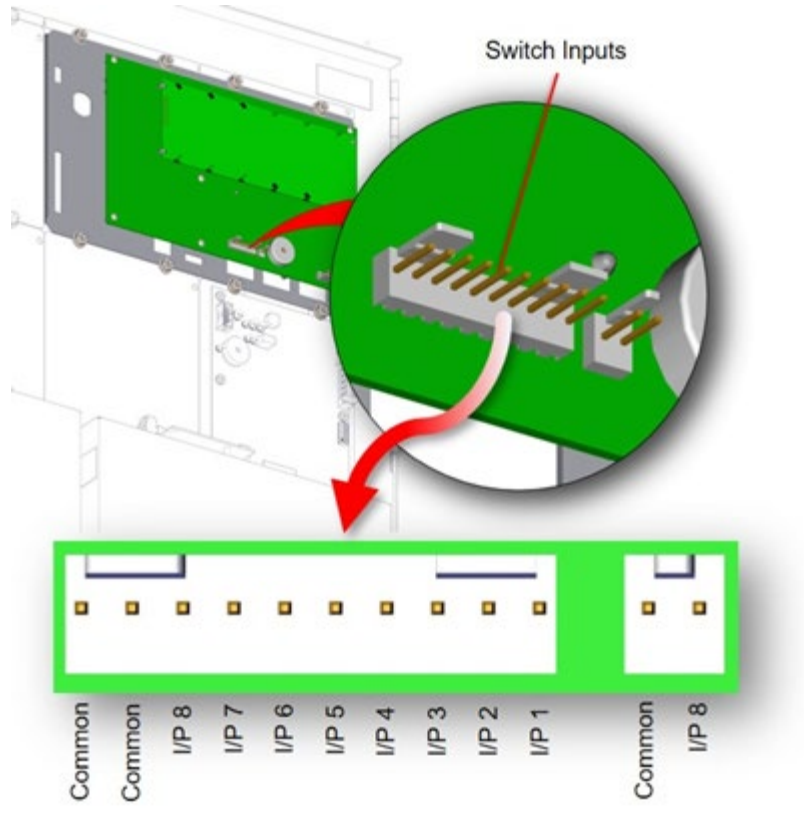

Figure 38 - NX10-ACS-DSP Switch Input Wiring
On the back of the NX10-ACS-DSP keyboard display are two (2) male plug-in connectors; one 10-pin and one 2-pin. The 10-pin male connector includes two (2) Common pins and eight (8) separate switch input pins. The second 2-pin male connector is a duplicate of the 10-pin's Common and input eight (Figure 38).